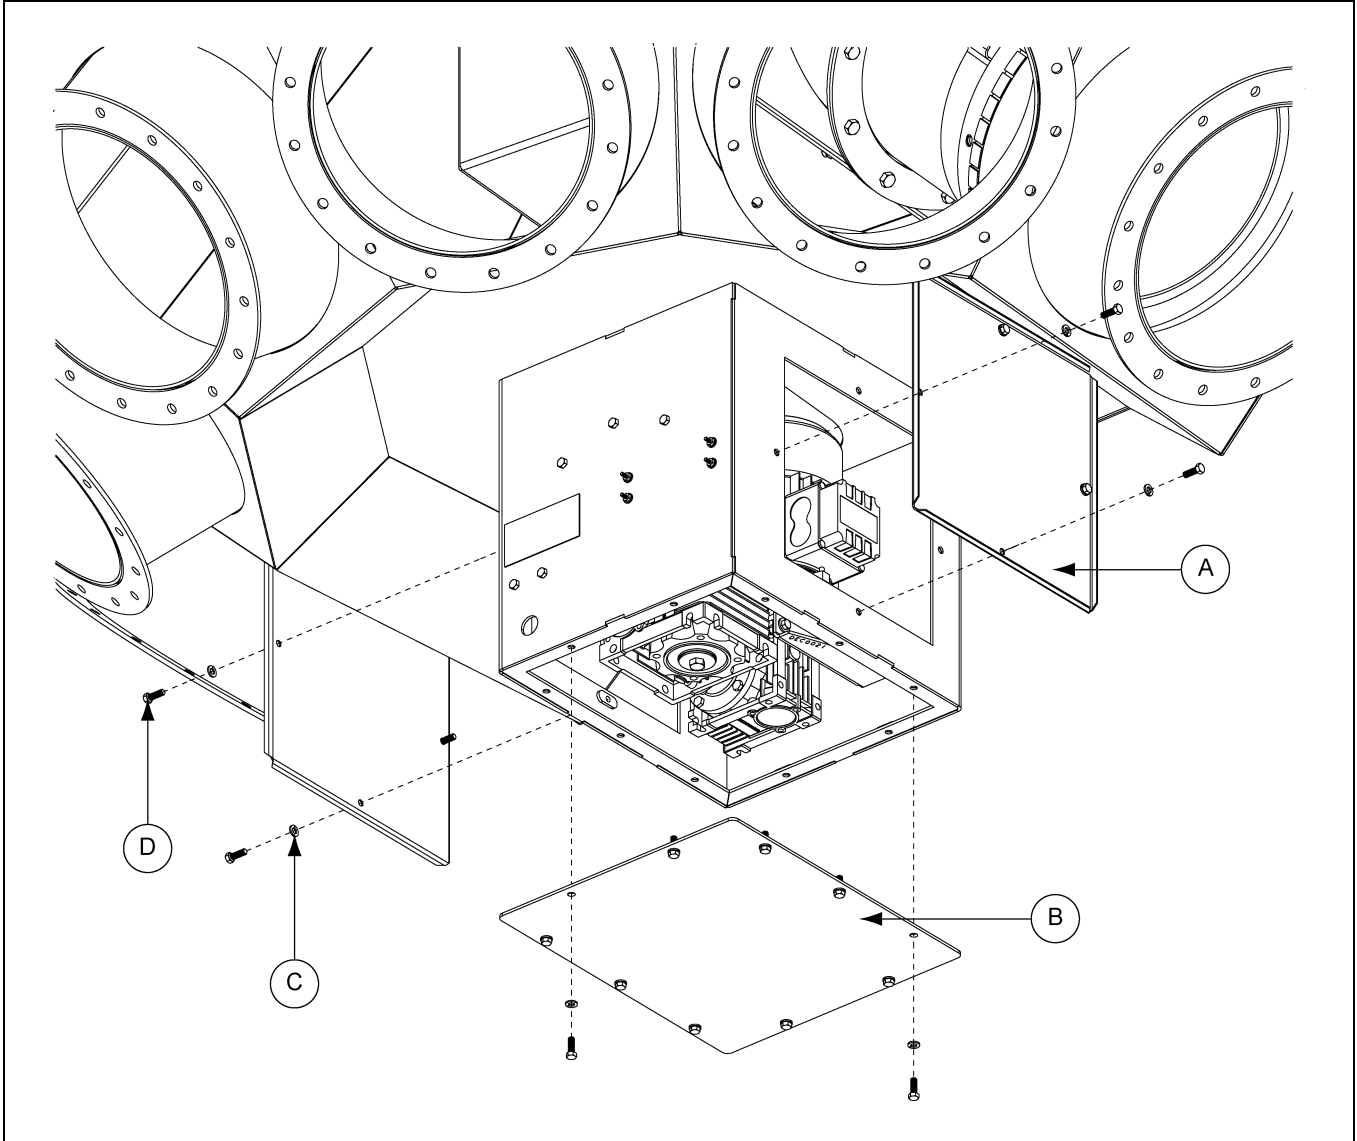

Figure 3G Enclosure Covers Installation
Once all wiring is complete, install the two (2) side access covers (A) using four (4) 1/4"-20 x 3/4" HHCS bolts (D) and 1/4" lock washer (C) each and install the bottom enclosure cover (B) using ten (10) 1/4"-20 x 3/4" HHCS bolts (D) and 1/4" lock washers (C) as shown in Figure 3G. Ensure that no wires are pinched or damaged when installing access covers.